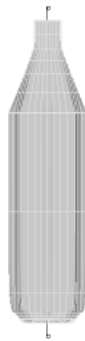

Figure 11-111 Highlighted model with the line displayed at the center of the model
1. Choose the **Line** button from the **Keypoint Curve Toolbox** and create the line such that it passes through the center of the entire model, as shown in Figure 11-111.
4. Choose the **Accept Targets** button; the model is highlighted, refer to Figure 11-111. Also, you are prompted to select the twist axis and the **Accept Axis Curve** button in the inactive state is displayed at the lower right corner of the active window.